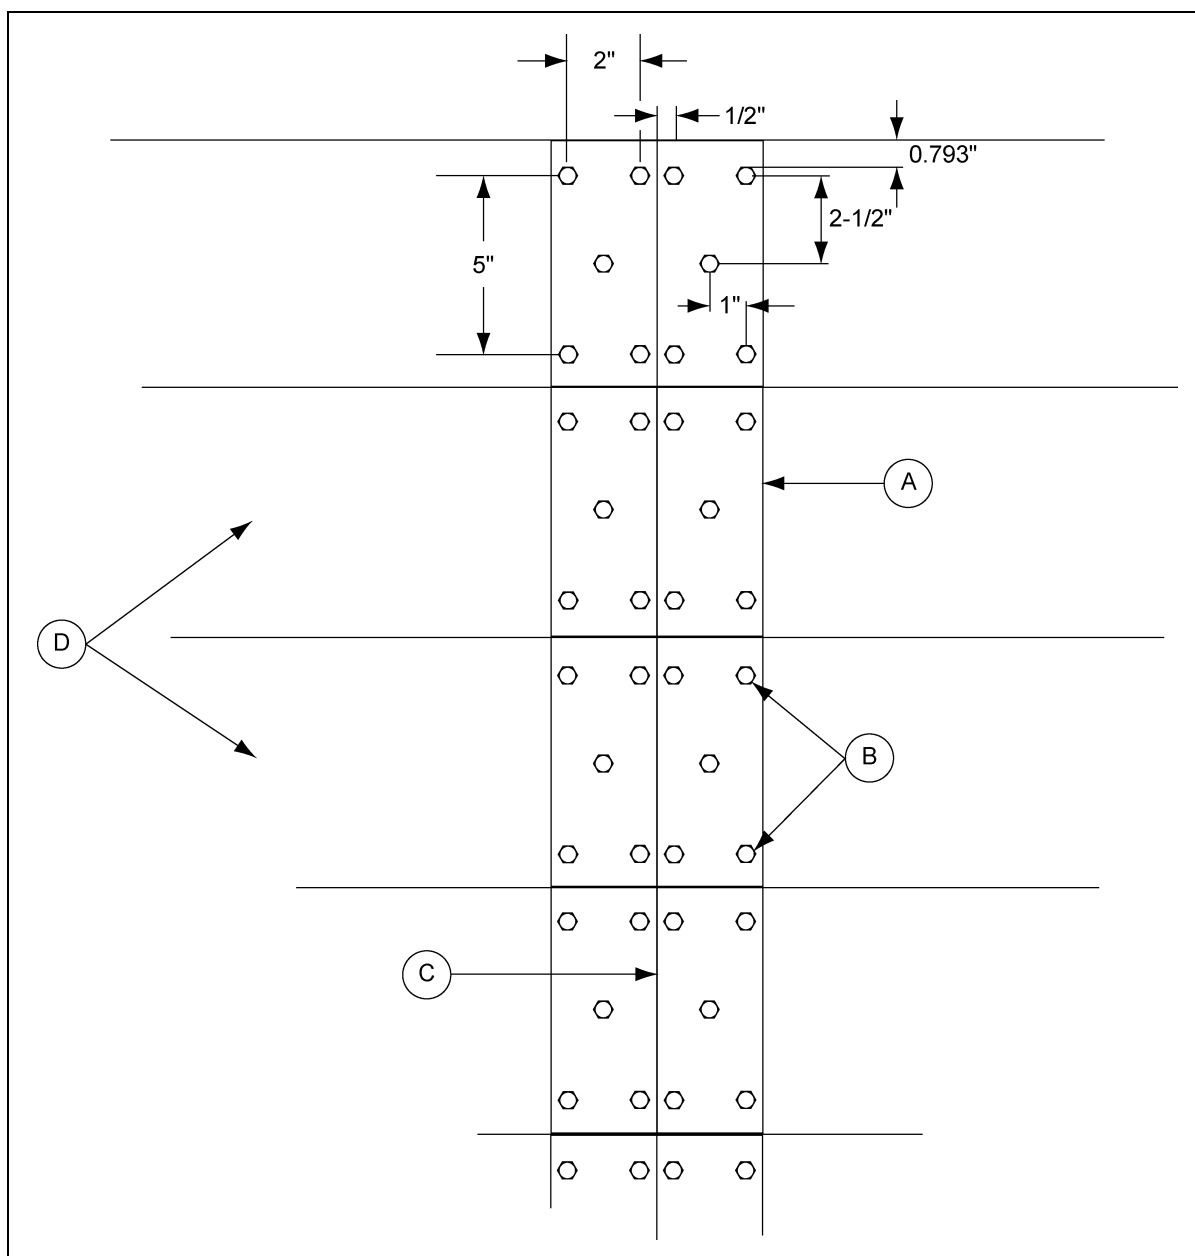

Figure 4E Specifications for installing the Undersplice to Floor Planks
The undersplice should be installed underneath the planks at the split after both plank lengths have been butted together. Each splice has to be installed as each row of planks are installed. Figure 4E shows the layout of the undersplice plates (A) and the screw pattern used to secure them.